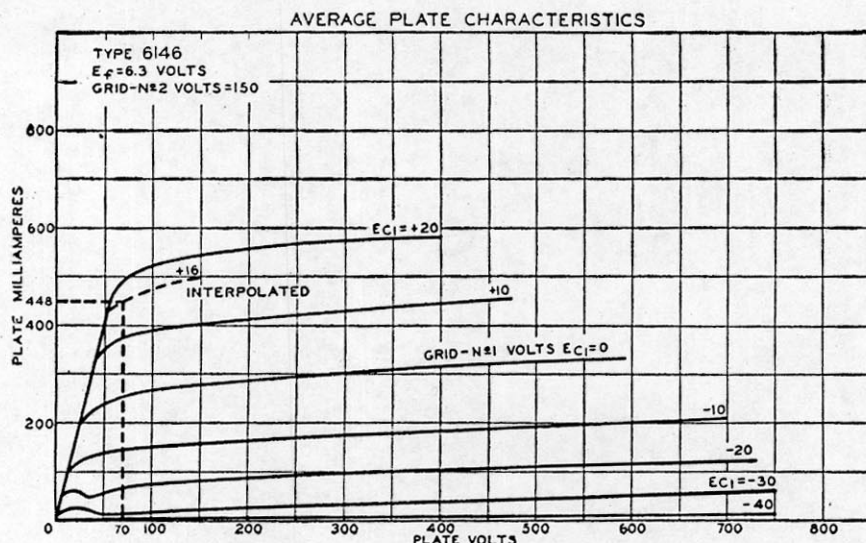

Fig. 44
(3) From the plate family for the 6146 given in Fig. 44 ( $E_{c2}=150$  volts), a suitable value for effective minimum plate voltage ( $e_{bmin}$ ) to the right of the "knee" is 70 volts. The corresponding peak positive grid-No.1 voltage ( $e_{c1max}$ , determined from  $E_{c1}$  curves) for a peak plate current of 448 milliamperes is approximately +16 volts.
(4) From Table I,  $K_2$  for a conduction angle of 140 degrees is 0.862. Therefore, power output ( $P_o$ ) = 0.862  $\times$  (600-70)  $\times$  0.112 = 51 watts.
(5) Plate dissipation ( $P_p$ ) = (600  $\times$  0.112) - 51 = 16.2 watts. This value is well within the maximum plate-dissipation rating of the 6146 for class C telephony under CCS conditions (20 watts).
(6) The dc grid-No.1 or bias voltage ( $E_{c1}$ ) and peak rf grid-No.1 voltage ( $E_{g1}$ ) are calculated next. (Note that bias voltage  $E_{c1}$  is not the  $E_{c1}$  shown in the characteristics curves, which represents total grid voltage, i.e., the algebraic sum of the bias  $E_{c1}$  and peak rf grid-No.1 voltage  $e_{c1max}$ ). From table I,  $K_3$  and  $K_4$  for a conduction angle of 140 degrees are, respectively, 0.520 and 1.520. From the technical data for the 6146, mu-factor ( $\mu_{g2g1}$ ) is 4.5. Therefore,